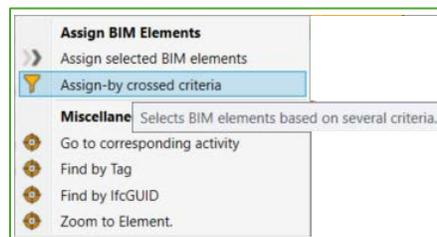

Figure 33 Criteria-Based element assignment context menu
2. Open the context menu by right click, and the dialog shown in Figure 33 will appear.